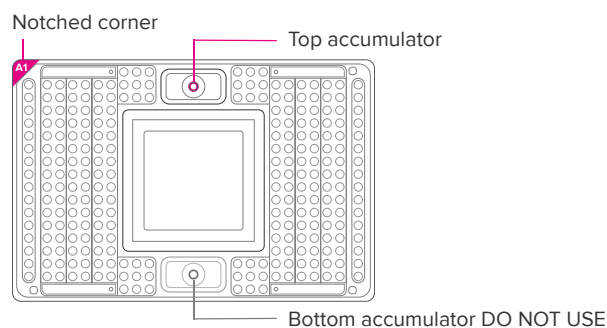

Figure 1. Top accumulator on 192.24 IFC
- 3 Inject control line fluid into the top accumulator on the IFC (Figure 1). Use the entire contents of the syringe.